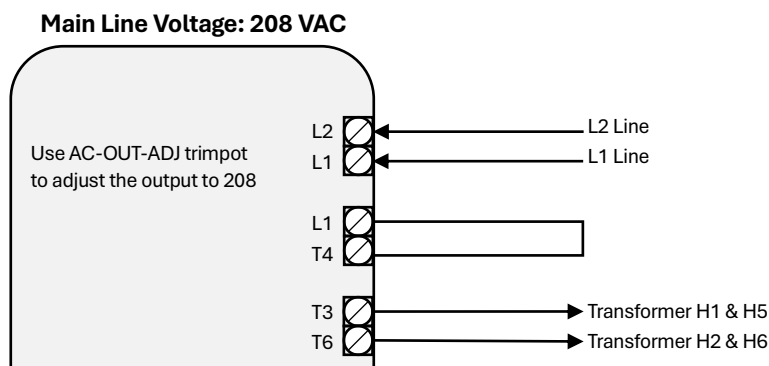
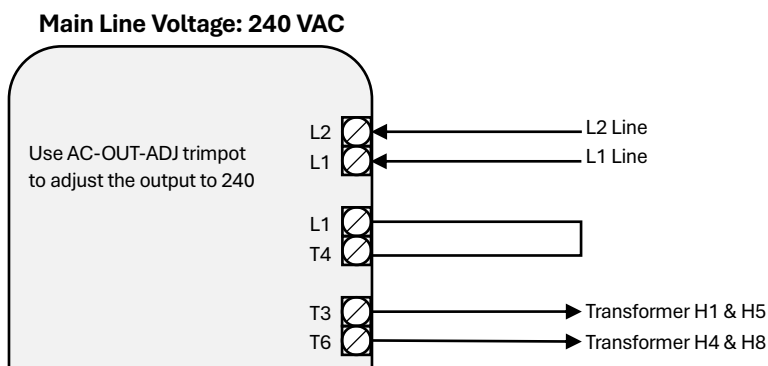
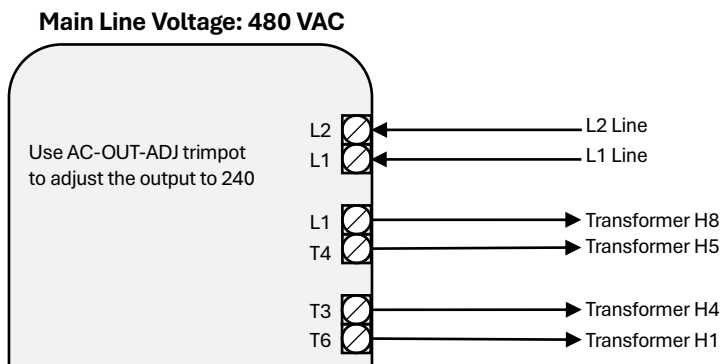

Figure 6: 208 VAC Wiring
Figure 7: 240 VAC Wiring
Figure 8: 480 VAC Wiring
- ◆ **L1, T4, T3, T6:** External connections based on incoming main line power [see Figure 6, Figure 7, and Figure 8].